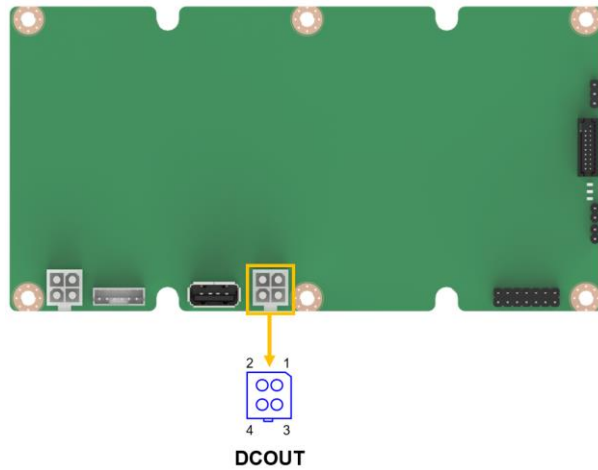

Figure 3-13: Power Output Connector Location
- CN Location:** See **Figure 3-13**